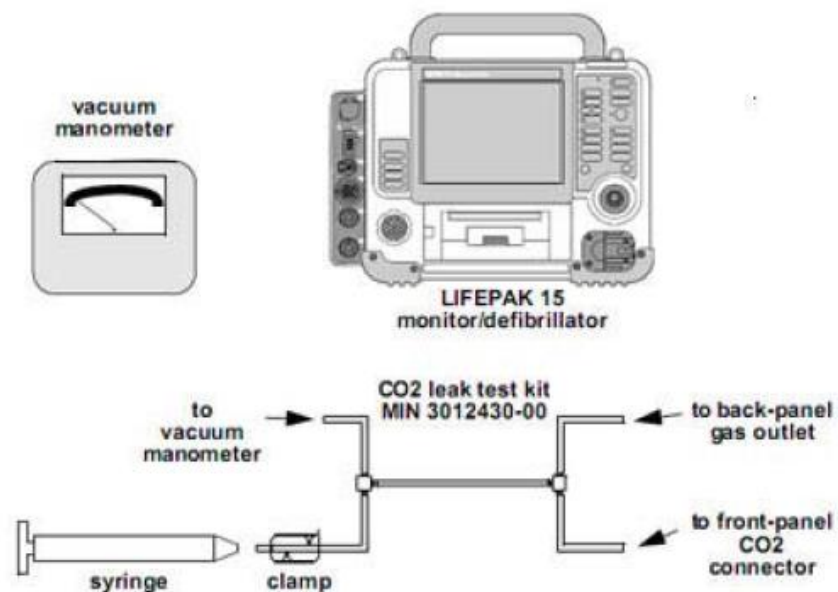

Figure 1.18—CO2 monitoring test setup
1. Set up the test equipment as shown in Figure 1.18.
3. Connect the tubing to the front panel CO2 connector and to the back panel CO2 gas outlet. Important: Press the fittings that connect to the device firmly to avoid leakage. All tubing ends should now be connected as shown in Figure 1.18.